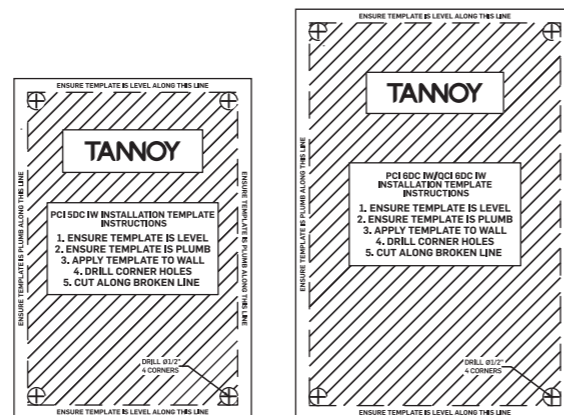
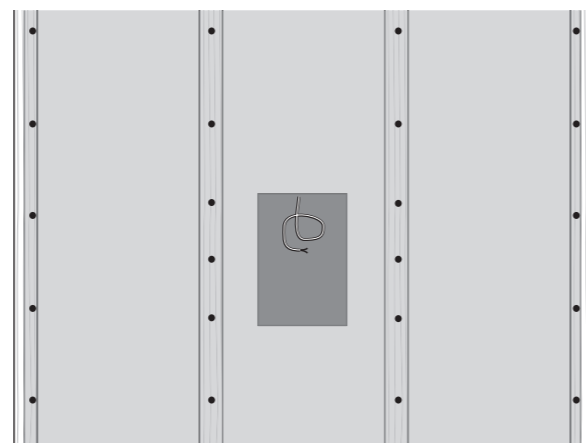

Fig. 1. Cutout Templates
Fig. 2. Drywall Cutout centered between Wall Studs
2. Use the supplied cutout templates (Fig. 1) in the desired location and carefully cut out a hole in the drywall using a suitable handtool. Remove any dust and debris from the hole (Fig. 2).